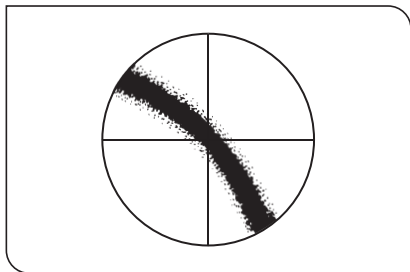

Fig. 3
2. Rotate the compensator knob to the position where the measured portion on the center of the field of view is darkest (Fig. 3) Find the angle at this position by totaling the readings of scales 1 and 2. $\rightarrow \theta_1$